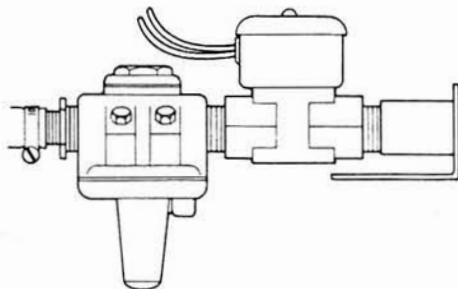
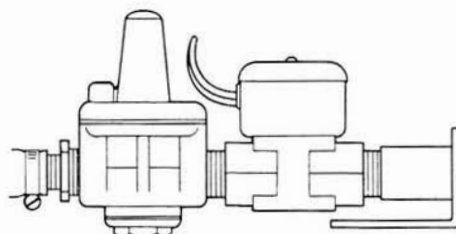

Figure 9
Figure 10
1. To convert from natural gas (NG) to propane (LP) Fig. 10 to Fig. 9.
- d. Invert the regulator so it is positioned as shown in Fig. 9.
2. Converting from propane (LP) to natural gas (NG) Fig. 9 to Fig. 10.
- c. Invert the regulator so that it is positioned as shown in Fig. 10.
- h. Turn selector switch on ETC panel to "check" position. This will energize the starting system. Although the regulator may not be exactly at the optimum position, the engine should start. Adjust the spring adjusting plug to obtain a positive (+) 5 inch water column (WC) or 2.5 to 3 oz. PSI reading on the carburetor side of the regulator with the engine running at no load.